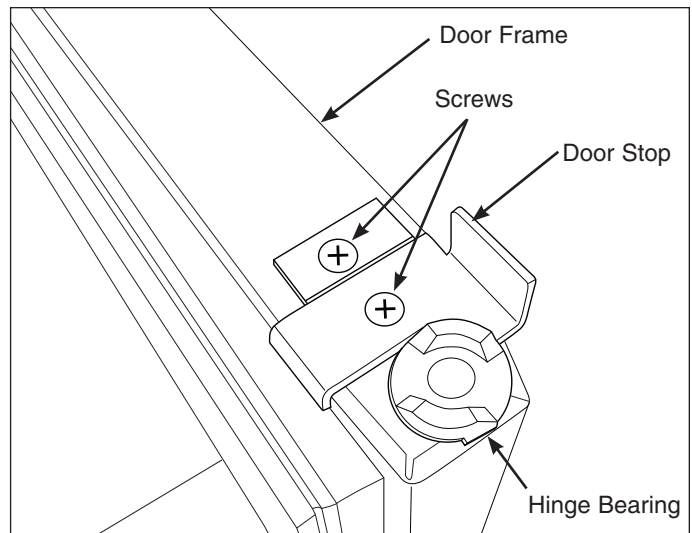

Figure 6-40. Door Stop Removal
2. Extract the two screws securing the door stop to the bottom of the door assembly. (See Figure 6-40) Door stop assembly is now free.